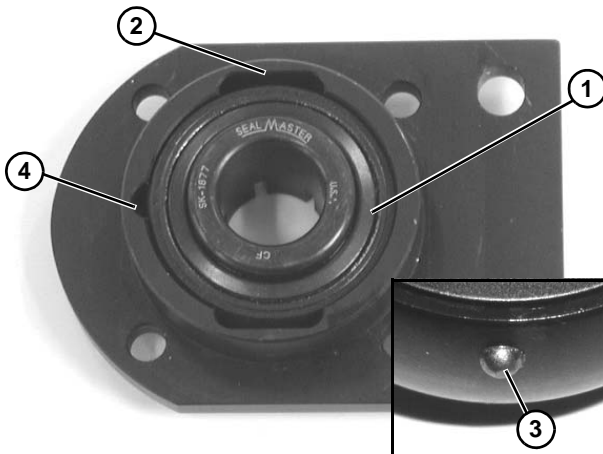

Figure 44
2. Insert bearing (**Figure 44, item 1**) into housing slot (**Figure 44, item 2**). Locate anti-rotation nub (**Figure 44, item 3**) to align with slot (**Figure 44, item 4**), and twist bearing into housing.